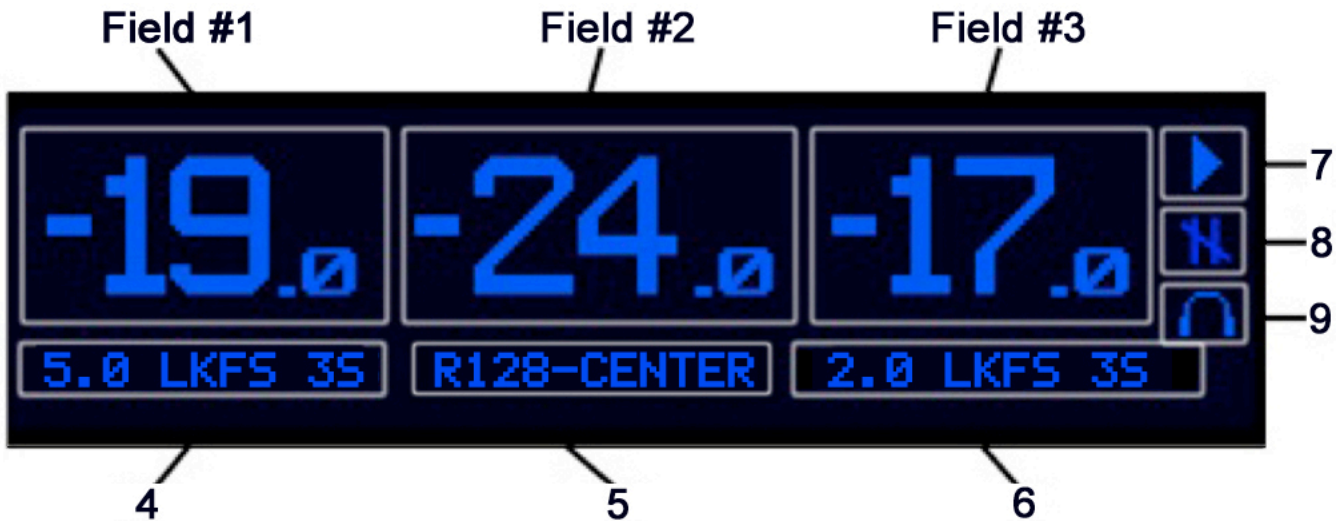

Figure 3a. Max SL Average View Home Screen on iLM8 - Live.
**Max SL View** – displays the Max Short Loudness Average combined for Surround 5.0, Max Short Loudness Average of the Center Channel, and Max Short Loudness Average combined for ST 2.0 in a large font (See Figure 3a)
When you select 'Max SL for Home screen view the display should look similar to the one pictured in Figure 3a. Pressing the HOME key again while on this screen enters Home Screen selection mode that allows quick access to key functions.